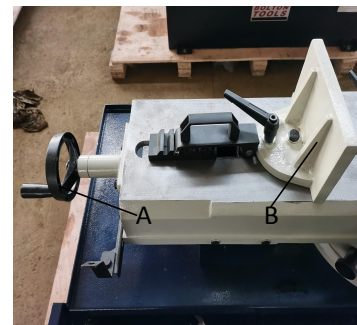

Fig.8
The workpiece is placed between the vise jaws with the amount to be cut-off extending out past the blade. Your machine is equipped with a "quick action" vise jaw which allows you to instantly position the moveable vise jaw (B) Fig.8. Simply turn hand wheel (A) counterclockwise 1/2 turn and move the vise jaw (B) to the desired position. Then tighten the vise jaw (B) against the workpiece by turning hand wheel clockwise. The vise can be adjusted to cut any angle from a straight 90 degree cut-off to a 45 degree angle by